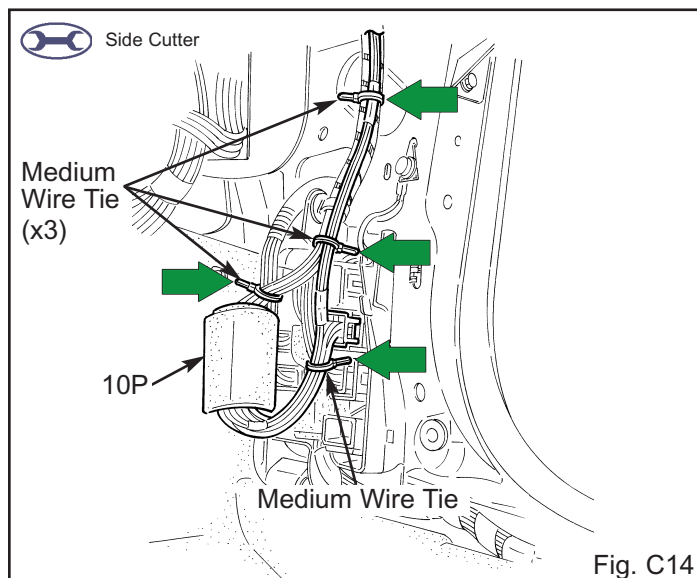

Fig. C14
18. Secure the V2 harness to the vehicle harness with four medium wire ties. (Fig. C14)